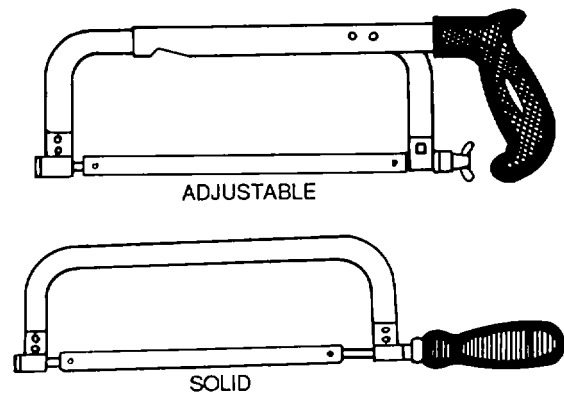

Figure 4-96. Hacksaws
(1) *Frame.* The frame may be solid or adjustable, as shown in figure 4-96. Adjustable frames can be made to hold blades from 8 to 16 inches long, while those with solid frames take only the length blade for which they are made. This length is the distance between the two pins that hold the blade in place. The blade is installed in the frame with the teeth pointing forward, and is tightened by turning the handle or a wing nut.